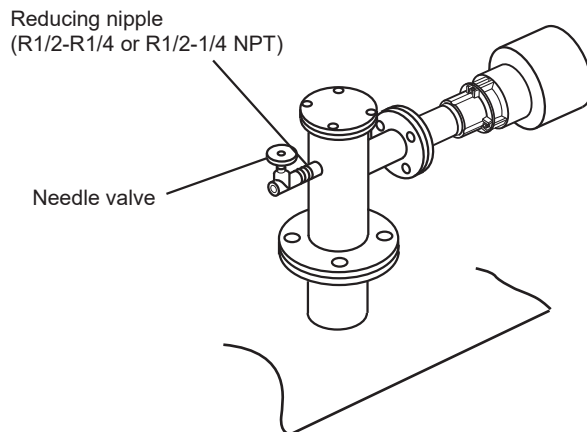

Figure 4.23 Mounting the needle valve for restricting exhaust flow of the sample gas
- When a high temperature detector is used and the pressure of the measured gas is 0.5 kPa or higher, it is recommended that a needle valve (throttle) be used in the sample gas exhaust of the high temperature probe adapter (see Figure 4.23).